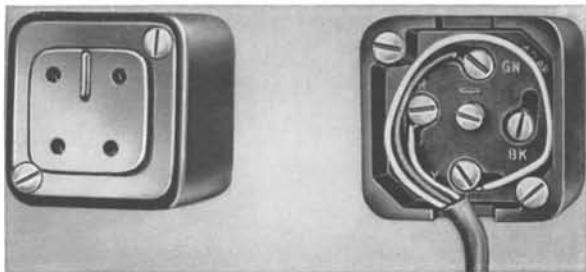

FIG. 19—INSTALLATION OF 404B JACK
11.01 Install 404B jack, as shown in Fig. 19, and as follows:
1. Connect station wire to jack, and dress as shown in Fig. 19.